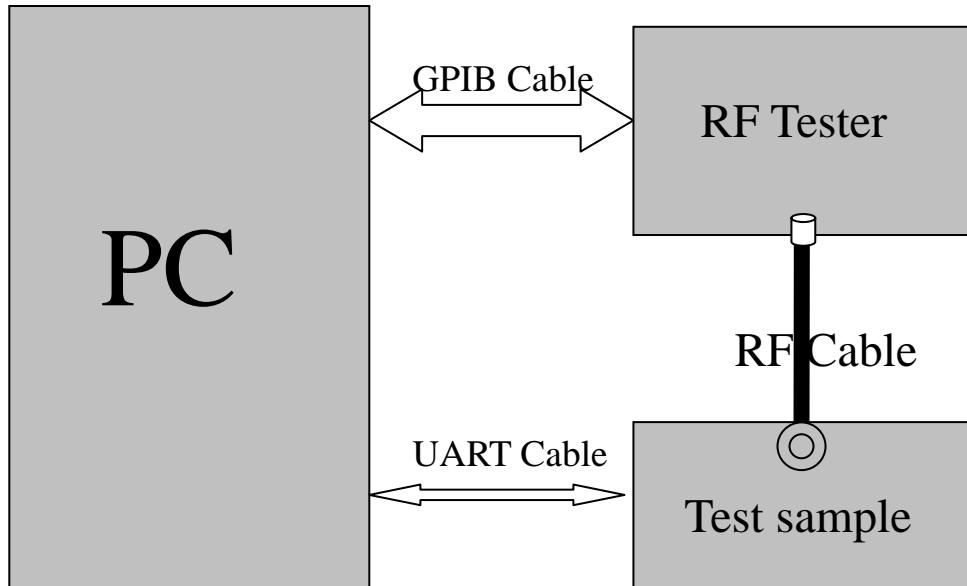

Figure 1
- (1) The equipment setup as shown in Figure 1.
- (2) Operation of PC adjusts equipment.
- (3) Use RF Engineering Tools at PC side.
- (2) Use Crystal AFC Control Tools to Set CapID and AFC DAC value.
- (3) Set Band=GSM850, Set ARFCN=190, Set PCL=12.